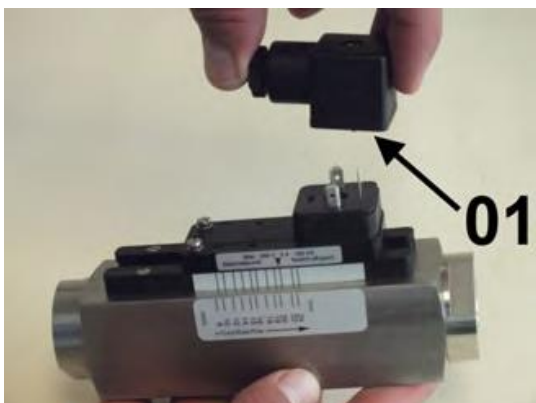

Fig. 60 Remove female socket
2. ► Remove the female socket and gasket (Fig. 60/01) by pulling upwards.